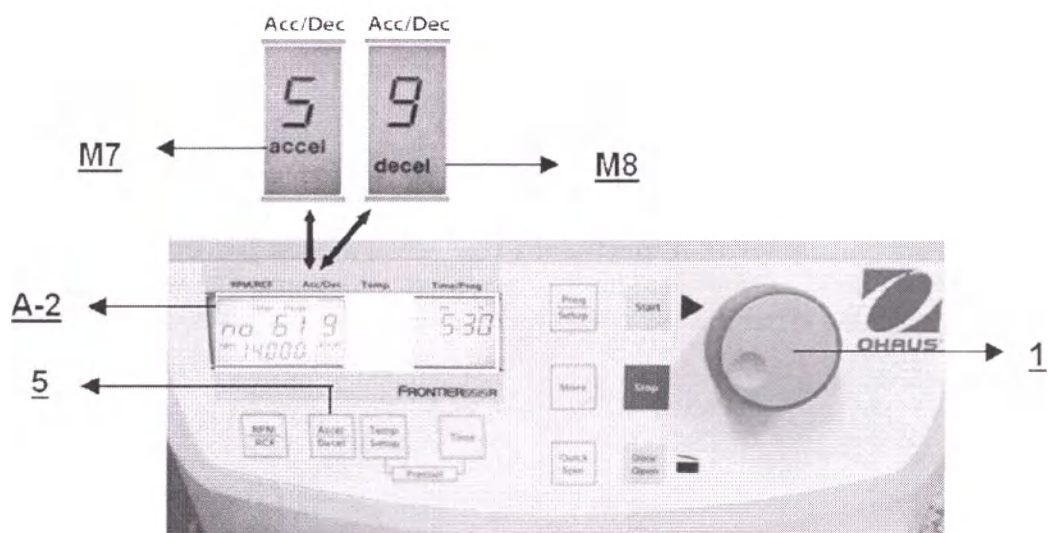

Fig. 18
To preset these parameters, the key **Accel/Decel** (5) is used (see Fig. 18).